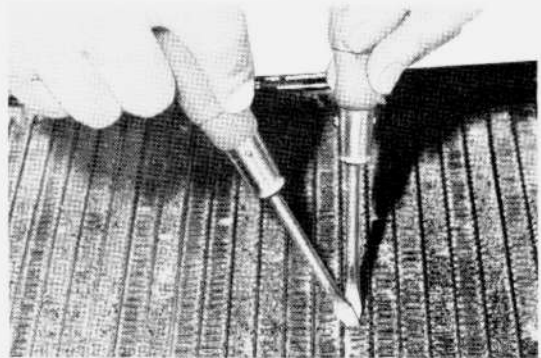

Fig. 6-19 Repairing Radiator Fins
1. Correct damaged fins as illustrated in Fig. 6-19.